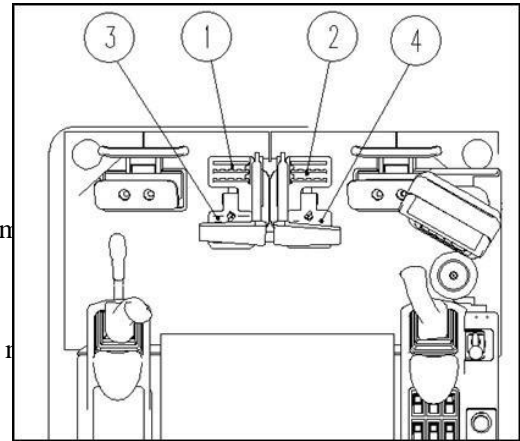
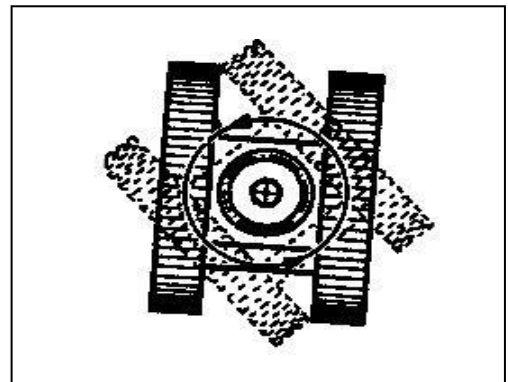

FIG. 4.4.1
FIG. 4.4.2
- 1) **Straight travel:** Step on two pedals forward at the same time (pedal 1 and 2 in FIG. 4.4.1)
- 2) **Straight reversing:** Step on two pedals backward at the same time. (pedal 3 and 4 in FIG. 4.4.1)
- Turn left (FIG.4.4.2): Step on right pedal 2 forward and left pedal 3 backwards. (FIG. 4.4.1)
- Turn right (FIG. 4.4.3): Step on right pedal 4 backwards and left pedal 1 forward. (FIG. 4.4.1)
- Left Turning: Step on right pedal 2 forward. (as 3 in FIG. 4.4.1)
- Right Turning: Step on left pedal 1 forward. (as 1 in FIG. 4.4.1)